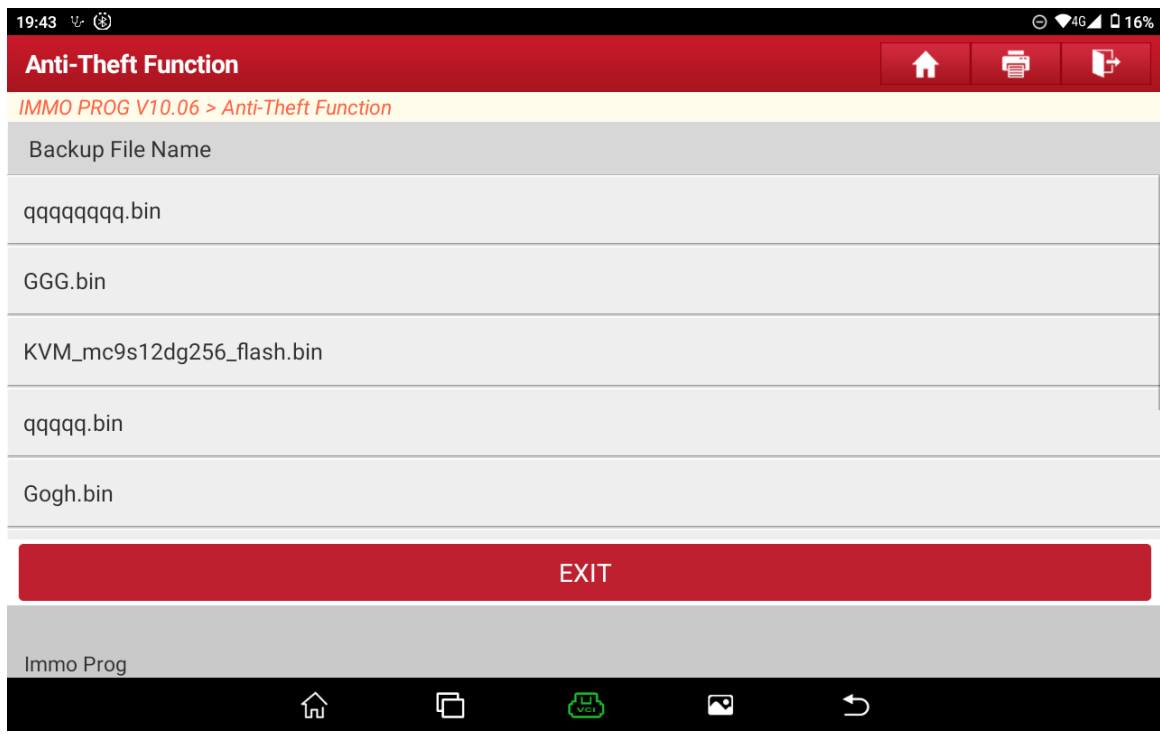
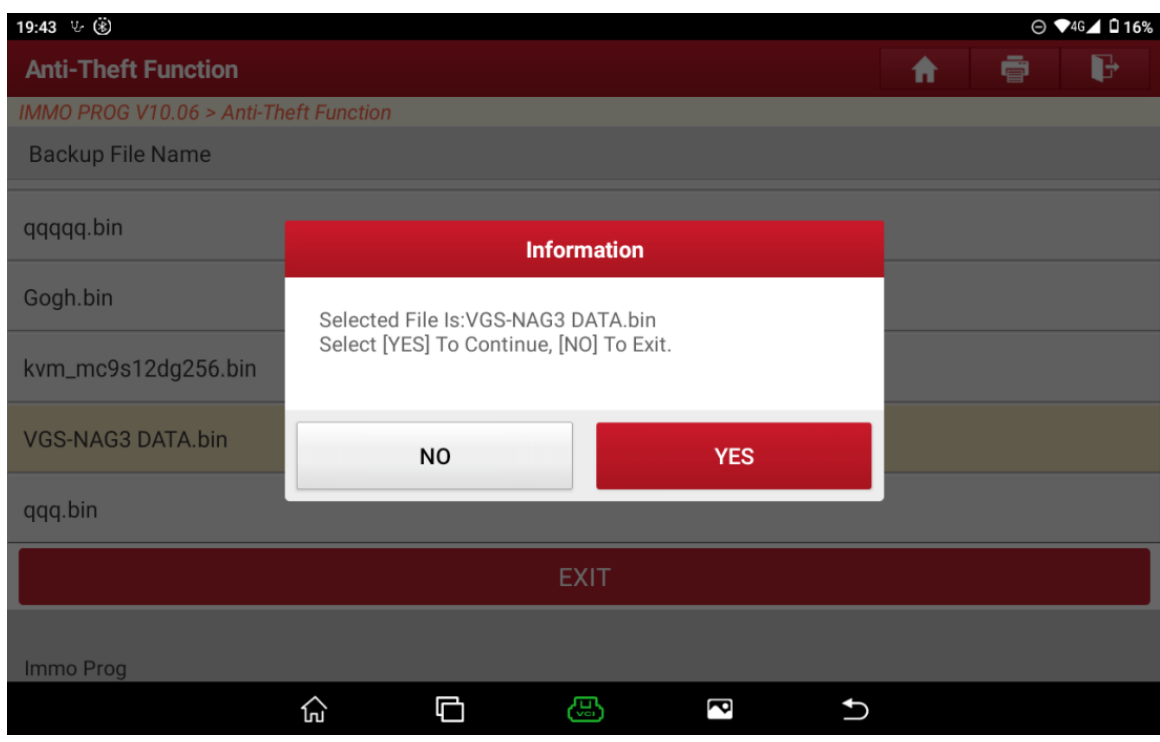

Figure 13
Figure 14
- Click [Restore complete data], select the data backed up in step 7, as shown in Figure 13; click “Yes” to write the data of original gearbox to the external gearbox, as shown in Figure 14, 15 and 16;